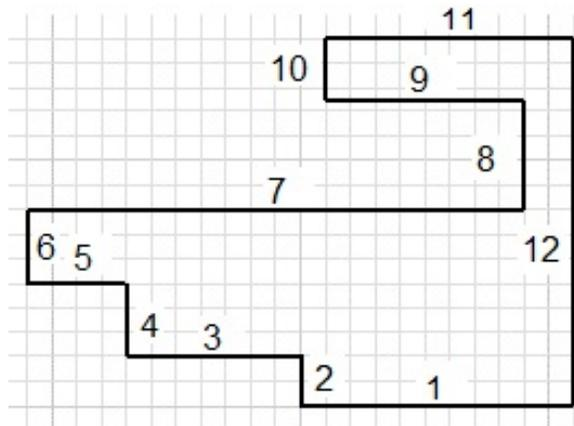

Figure 2-77 Sketch after drawing the lines
3. Move the cursor upward in the graphics window. Next, enter **4** in the length input field, press TAB, and enter **90** in the angle input field; the line 2 is drawn, as shown in Figure 2-77.